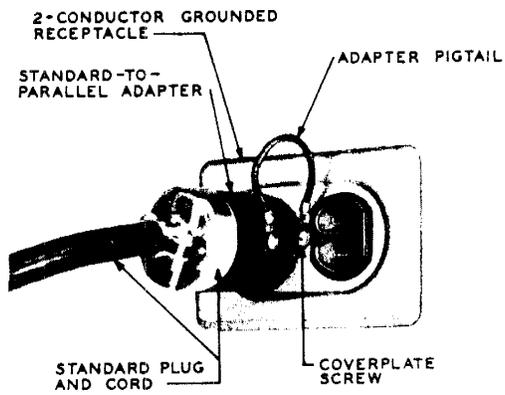

Fig. 8 — Grounded 2-conductor Receptacle
5.04 Where it is known that a building is wired with metallic conduit, armored cable, or nonmetallic sheath cable with a grounding conductor, the outlet boxes may be grounded. Under these conditions and only after it has been found that the boxes are grounded, the grounding pigtail terminal on the adapter or plug may be fastened under the coverplate screw of the receptacle. (See Fig. 8.)
5.05 In grounding to a 2-conductor receptacle (Fig. 8), connect pigtail to coverplate screw before inserting adapter into the receptacle.